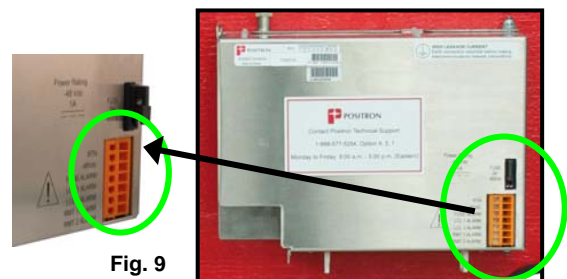

Fig. 9
- 1.7.3** If a -48Vdc source is already locally available, feed the -48Vdc in through the universal, fused power input terminal block and connect the pre-installed Orange and Yellow conductors to the -48Vdc .input power terminals located on the side of the TeleLite 3-slot “Swing-Out” shelf. See Figure 9.